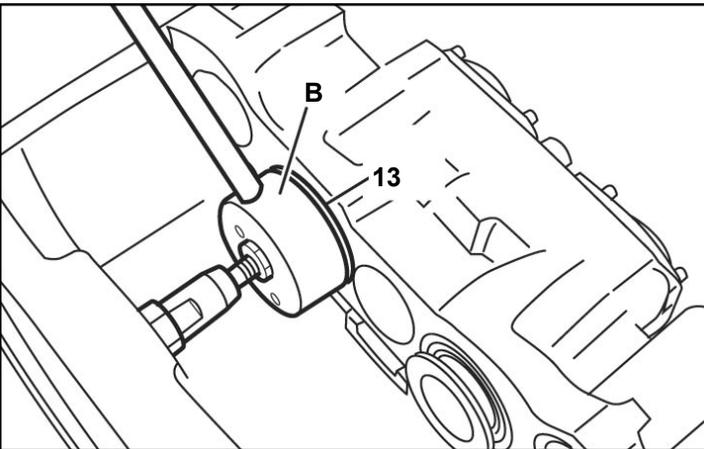

FIGURE 13 - OFF VEHICLE BOOT INSTALLATION
- Install the boots using the press-in tool (B) with the short press-in extension (T3) for positioning and pressing into place - see Figure 13.
- Install the boots using the press-in tool (B) with the long press-in extension (T3 + T4) for positioning and pressing into place - see Figure 13.